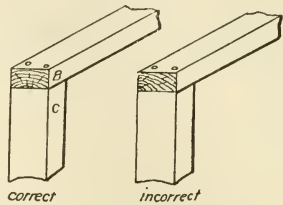

FIG. 114.—CORRECT AND INCORRECT METHOD OF PLACING THE NAILS.
7. **Assembling the bench.** — In assembling the bench nail the crosspieces on to the top of the legs with 20d. spikes. In nailing, be sure to stagger the nails, which means that they should not be placed parallel to the outer edges. Fig. 114 shows the correct and incorrect method. If the tops of the legs have been sawed